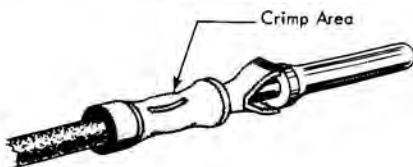

Figure 48. Installing a Winchester Terminal
3. Place the stripped wire in the terminal (Figure 48) and the terminal into the plunger opening of the tool.